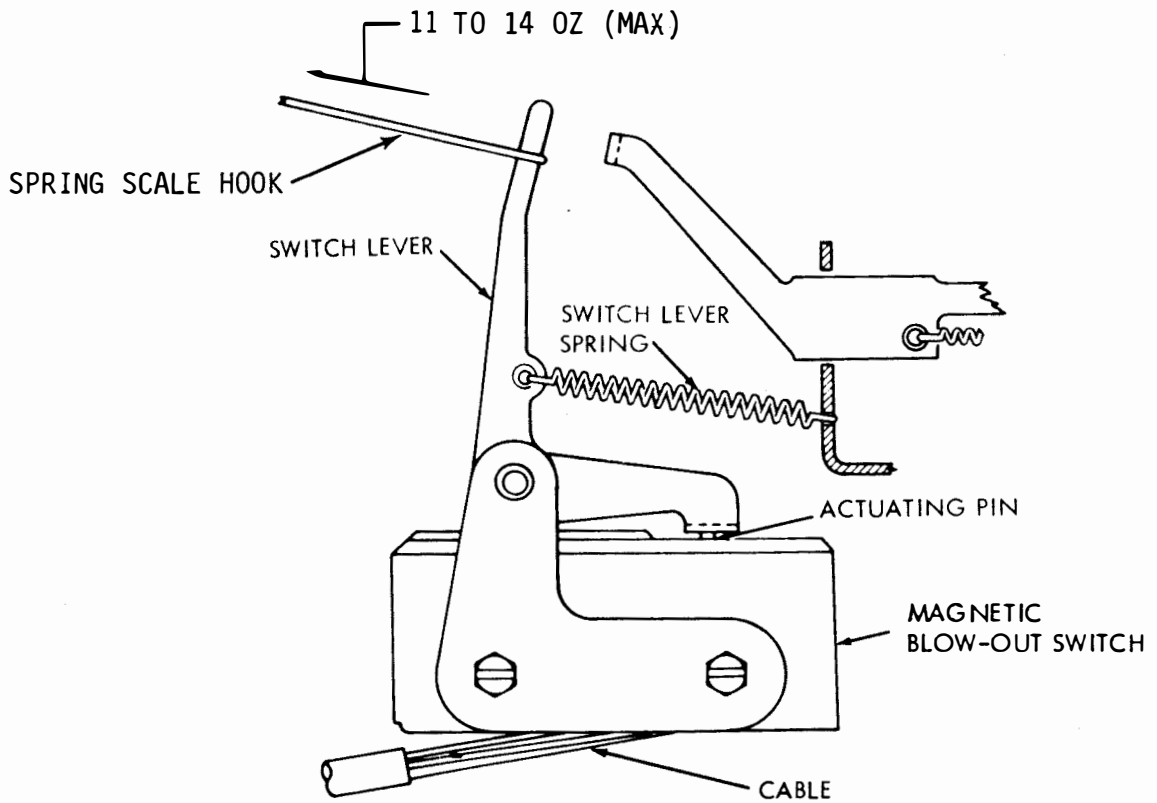

Figure 6-426. Switch Lever Spring
(1) Refer to Figure 6-426.
(2) Apply spring scale hook to switch lever and measure force required to pull switch lever free of switch actuating pin. This should be 11 to 14 ounces maximum.
(3) If requirement is not met, replace spring.